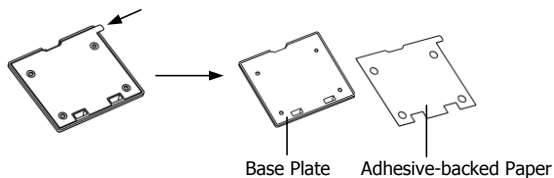

Fig. 11-10
(1) Pull the **Adhesive-backed Paper** off the **Base Plate** as indicated by the arrow icon in the top left of Fig. 11-10.